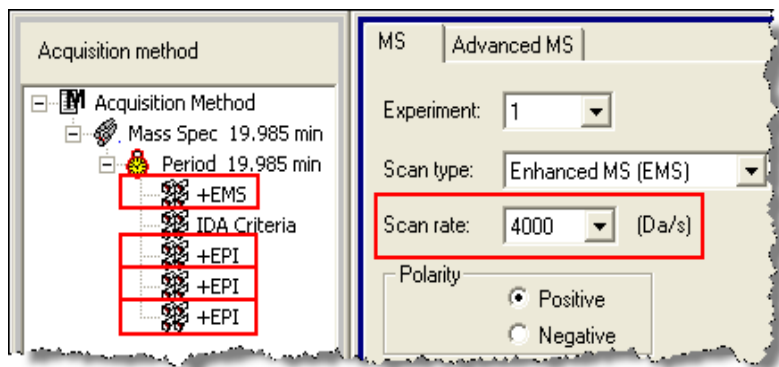

Figure 3-2 Acquisition method window
7. For each linear ion trap experiment, for example, EMS or EPI, listed in the **Acquisition method** pane, change the **Scan rate** in the right pane to any other available value and then change it back to the initial setting. Refer to Figure 3-2 on page 25.